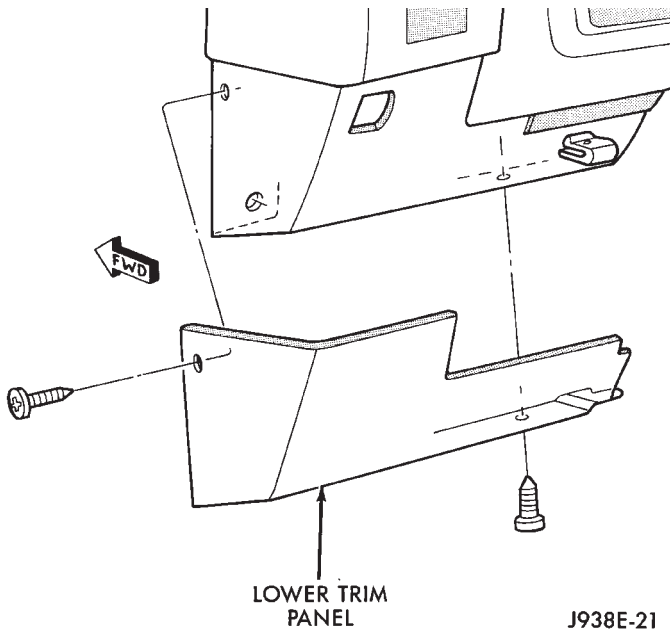

Fig. 11 Lower Trim Panel
- (11) Remove dash pad pulling up to unsnap end clips.
- (12) With driver's door open remove 1 screw from the side of the lower trim panel (Fig. 11).